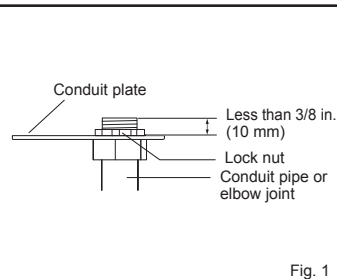
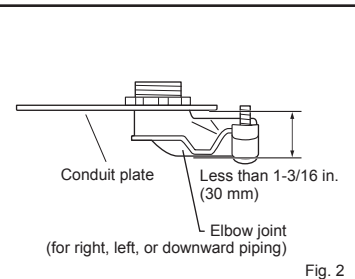

Fig. 1
Fig. 2
- Attach conduit pipe (for rear piping) / elbow joint (for right, left, or downward piping) to conduit plate with lock nut. The thread of the installed conduit pipe / elbow joint appearing inside should be less than 3/8 in. (10 mm). (Fig. 1) Elbow joint should appear less than 1-3/16 in. (30 mm) outside. (Fig. 2)
- Pull out the drain cap at the back right of the indoor unit. (Fig. 1)
- Pull out the drain hose at the back left of the indoor unit. (Fig. 2)